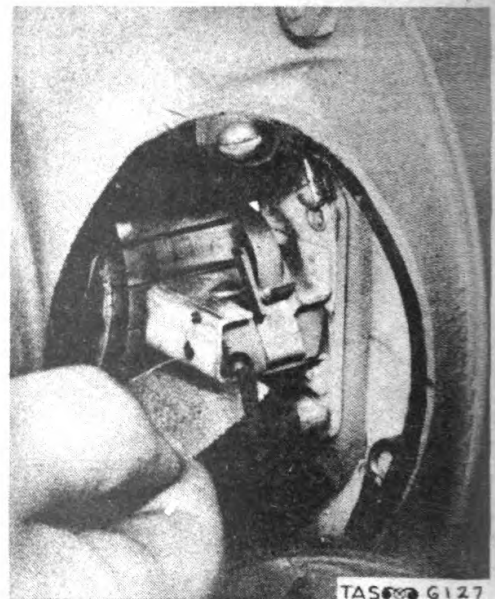

Fig. 127. Cleaning Commutator and Brush with a Strip of No. 00 Sandpaper.
(2) Clean the commutator and brush with a strip of No. 00 sandpaper. (See fig. 127.) Do not use emery cloth. This operation can be performed with the armature revolving. All dust must be removed from the generator after the commutator has been cleaned.